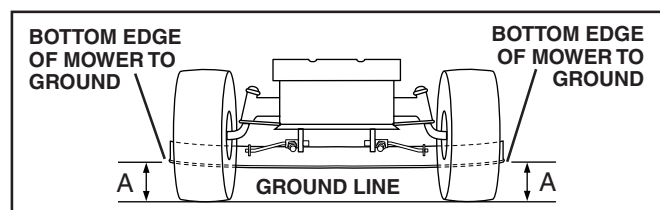

FIG. 18
**SIDE-TO-SIDE ADJUSTMENT** (See Figs. 18 and 19)